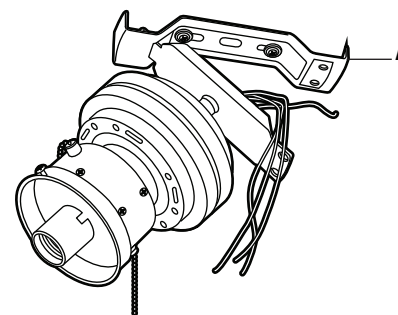

Figure 5
- Before making the electrical connections, use the square hole at one end of the supporting bar (A) to hang the fan motor (Figure 5).
- Connect the fan supply (black) wire and light supply (blue) wire to the black household wire as shown in Figure 5. Do not connect the blue wire if the light kit is not used.
- After connecting the wires, secure the wire connectors (BB) with black electrical tape and spread them apart so that the green and white wires are on one side of the outlet box and the black and blue wires are on the other side. (i.e., grounded conductor on one side and hot wires on the other side.)
- Turn the wire connectors (BB) upward and push the wiring into the outlet box.